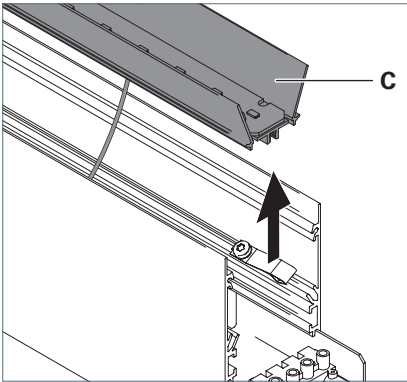

Fig. 14: Taking out the reflector.
- ▶ Remove the reflector **C** from the luminaire and place it beside the luminaire, see Fig. 14.